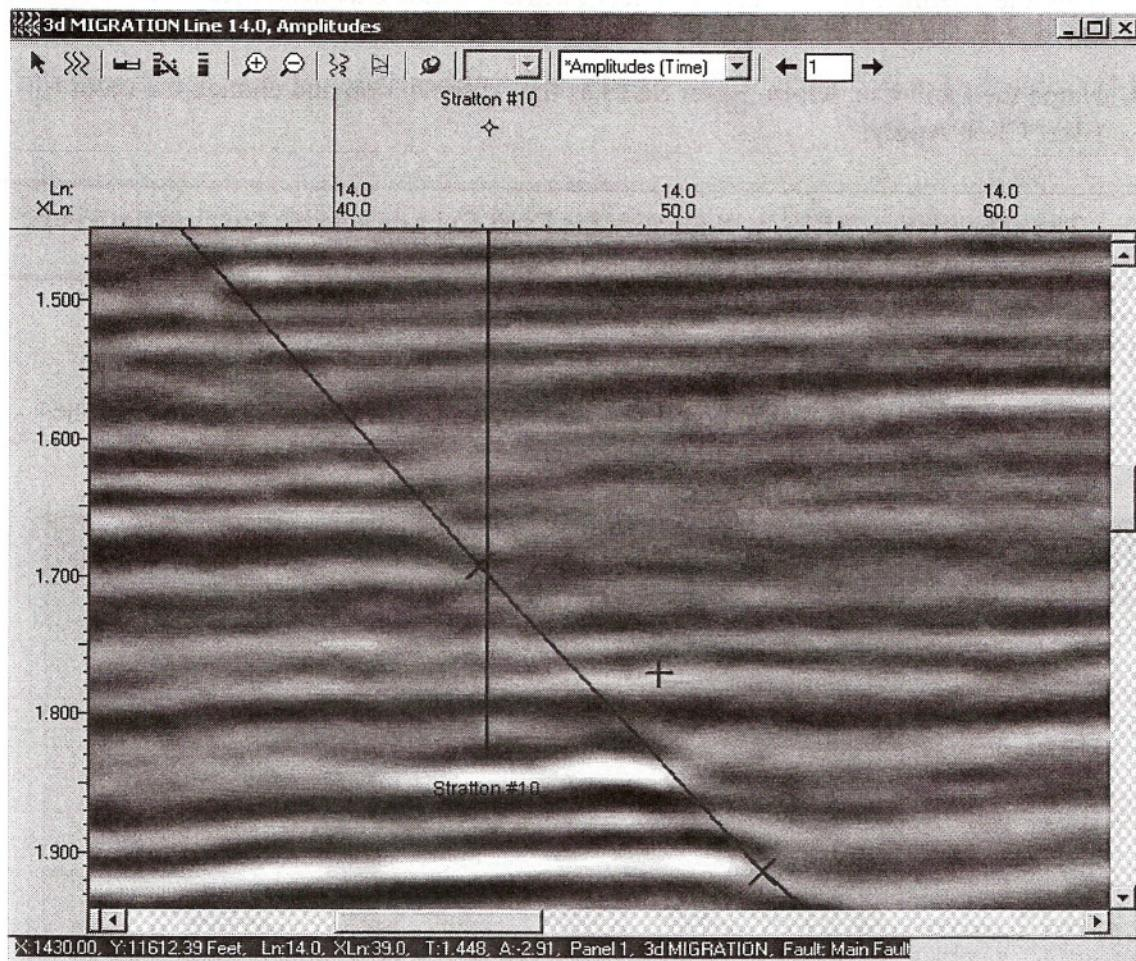

Figure 3.11 — Inline 14 with Stratton 10 well and Major fault
7. Zoom in to see the borehole intersecting the Main fault plane as shown in Figure 3.11.